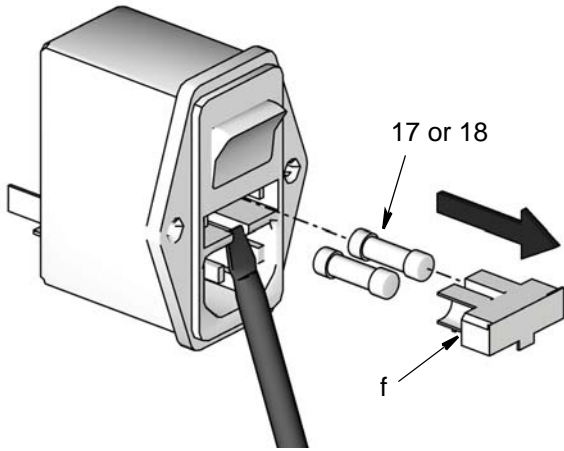

FIG. 8
1. Use a flat blade screwdriver to remove fuse box (f) located under switch as shown in FIG. 8.